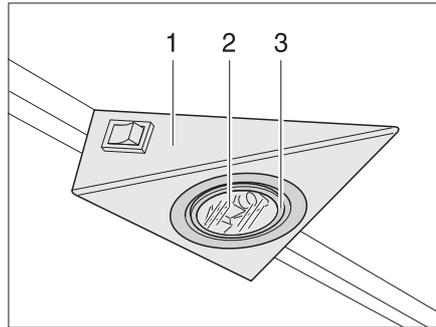
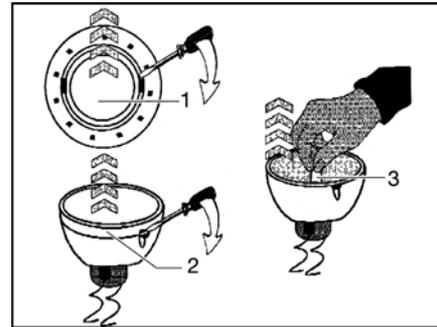

Fig. 179 Recessed halogen light
Fig. 180 Changing the halogen bulb
The recessed halogen light is installed flush in a housing (Fig. 179,1).
- Use a suitable tool (e.g. screwdriver) to remove the inner cover ring (Fig. 179,3 or Fig. 180,1) from the housing.
- Remove the cover ring with the glass (Fig. 179,2).
- Remove the halogen bulb (Fig. 180,2).